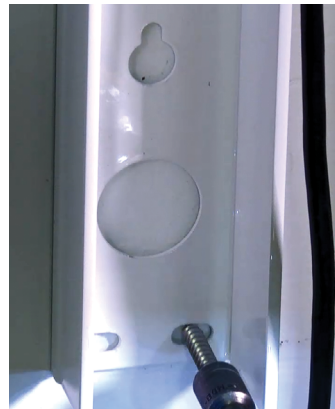
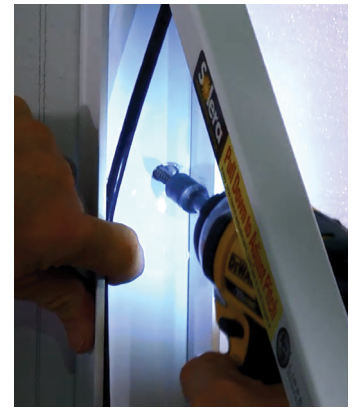

Fig.12
Fig.13
21. Secure the lower (**Fig.12**) and middle (**Fig.13**) sections of the drive side mount arm to the unit using the provided #14 x $1\frac{1}{4}$ " screws or rivets. (There will be 2 screws in the lower holes and 2 in the middle holes).